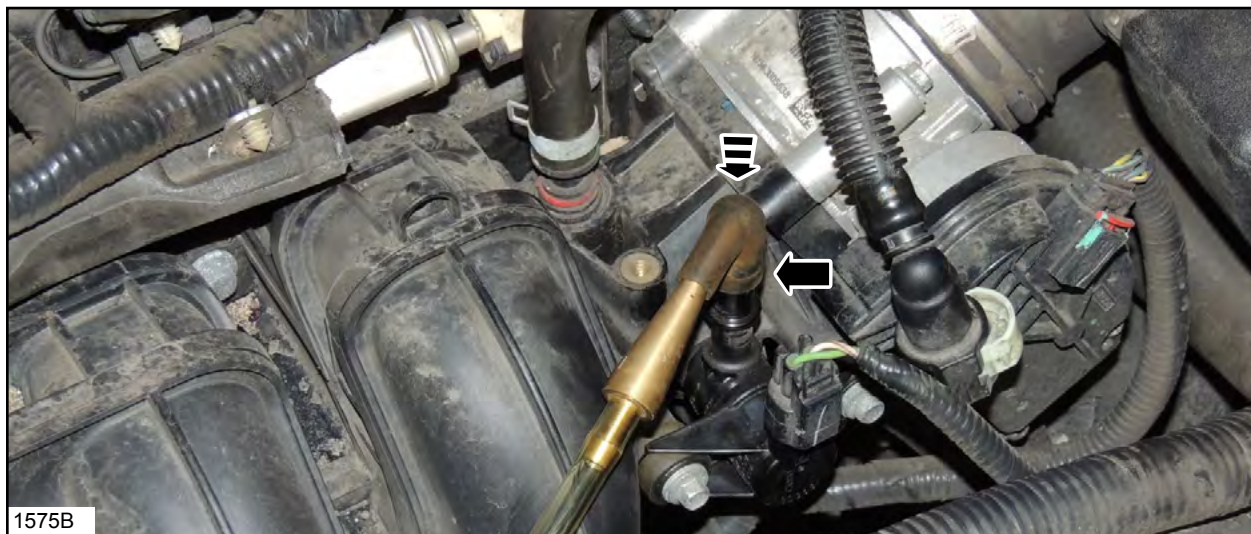

FIGURE 6
3. Using suitable adapters, connect the VACUTEC® Smoke Machine Fuel Evaporative Emission System Tester or equivalent to the port on the CPV. See Figure 6.